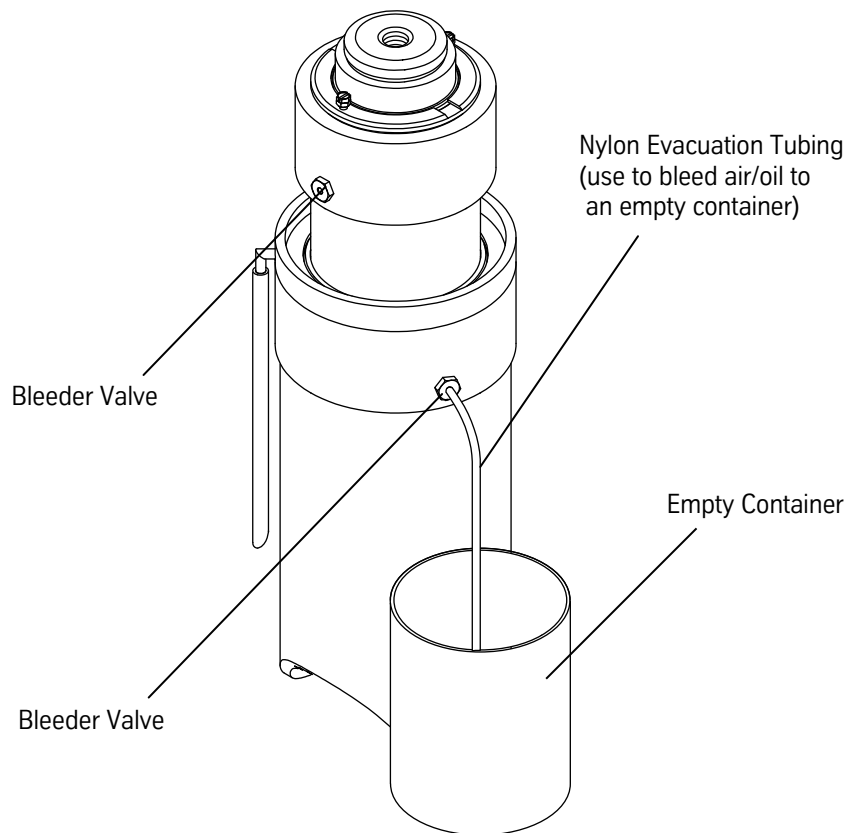

Figure 15 - Bleed the Jacks
1. Slightly open both bleeder ports (located at the top of each jack) to allow air to enter the valve. See Figure 15 on page 26.
2. Slightly open the bottom bleeder valve on each jack. See Figure 15 on page 26.